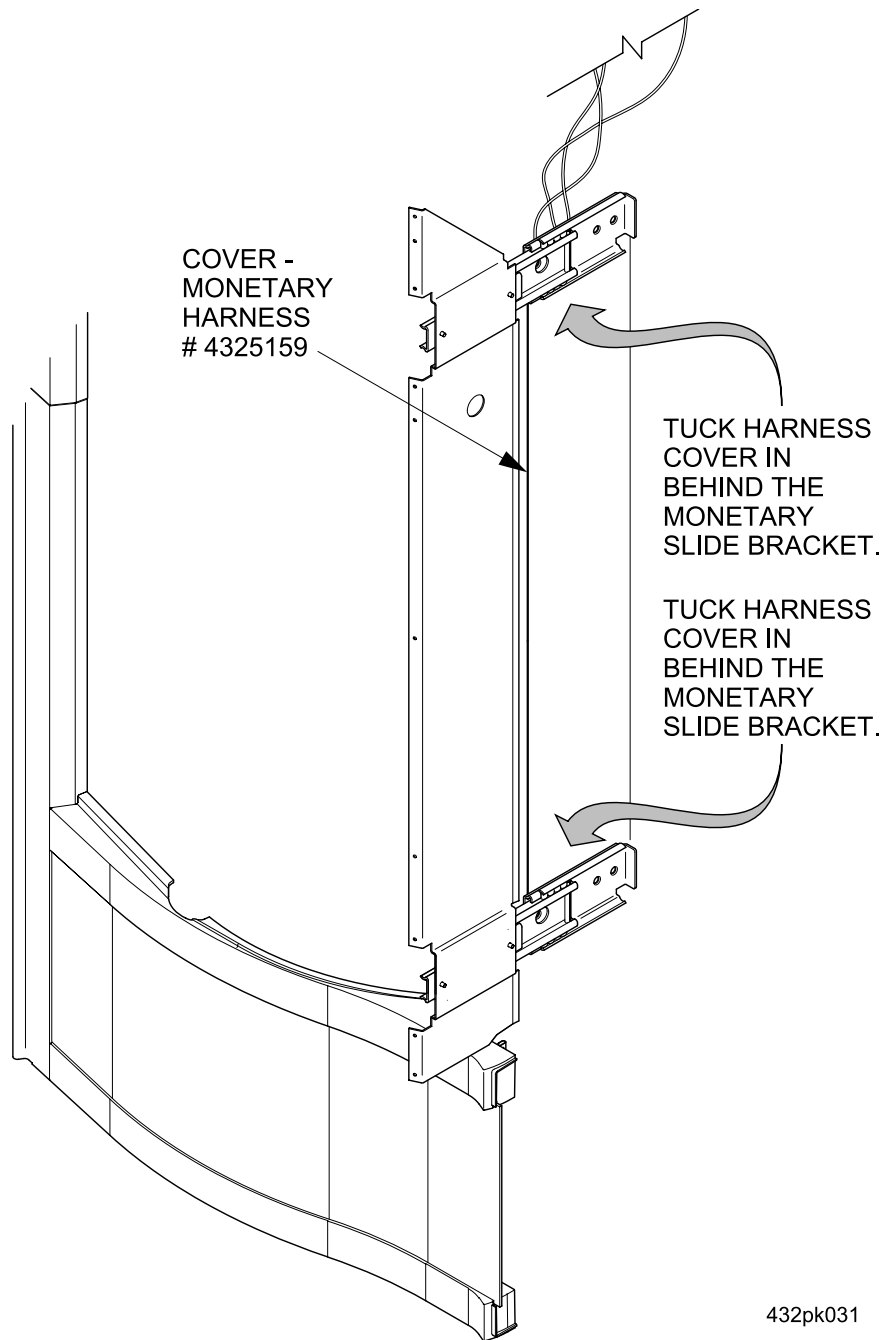

Figure 1
4. Slide the supplied plastic monetary harness cover part #4325159 down behind the monetary lower slide bracket and make sure that the cover is in front of all of the harnesses. The cover should sit on top of the screws that are used to secure the monetary slide. (See Figure 1 Page 2)